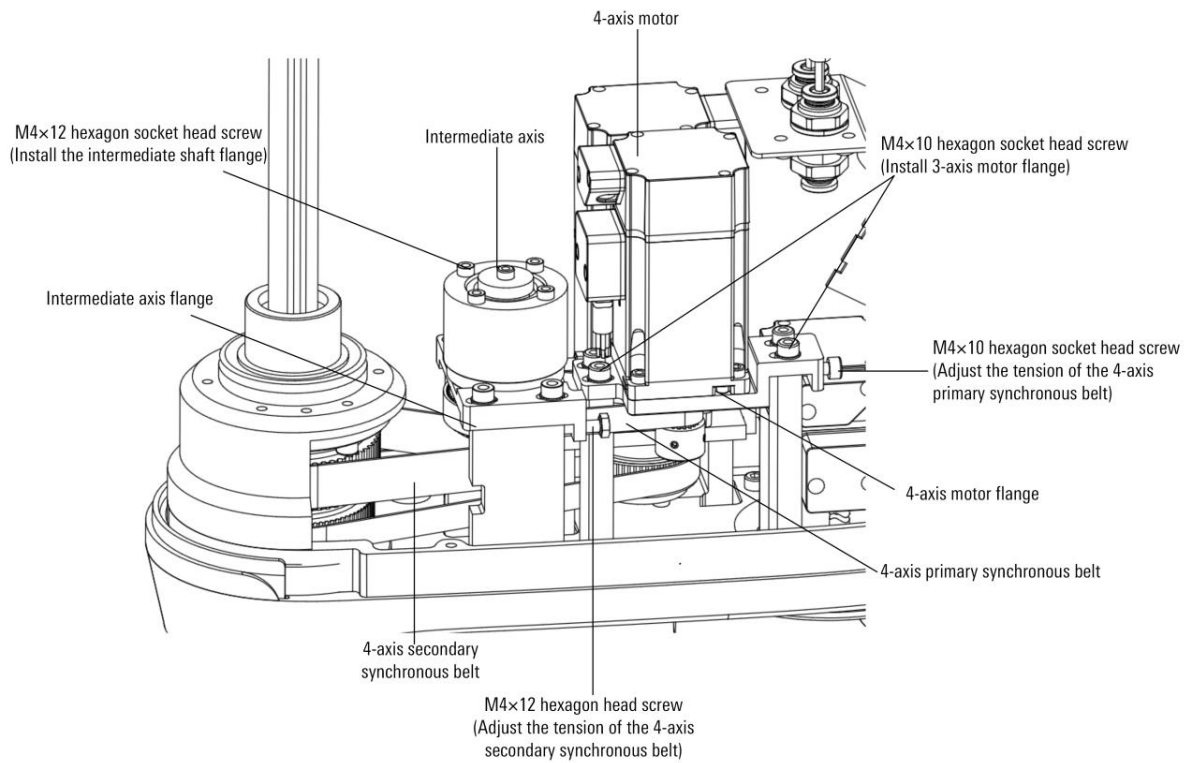

Figure 8-8 Schematic diagram of disassembling 4-axis motor flange and intermediate axis
- Step4. Use an Allen wrench to remove the four M4×10 inner hexagon socket head screws for installing the 4-axis motor flange, and then slowly loosen the a M4×10 inner hexagon socket head screw that adjusts the tension of the 4-axis first-stage timing belt. Take off the flanges of the 4-axis motor and 4-axis motor together, as shown in Figure 8-8.
- Step5. Use an Allen wrench to unscrew and remove the four M4×12 hexagon socket head screws for installing the intermediate shaft flange, and then use a common wrench to slowly loosen the two M4×12 hexagon head screws that adjust the tension of the 4-axis secondary timing belt. Take off the intermediate axis and the intermediate axis flange together, as shown in Figure 8-8.